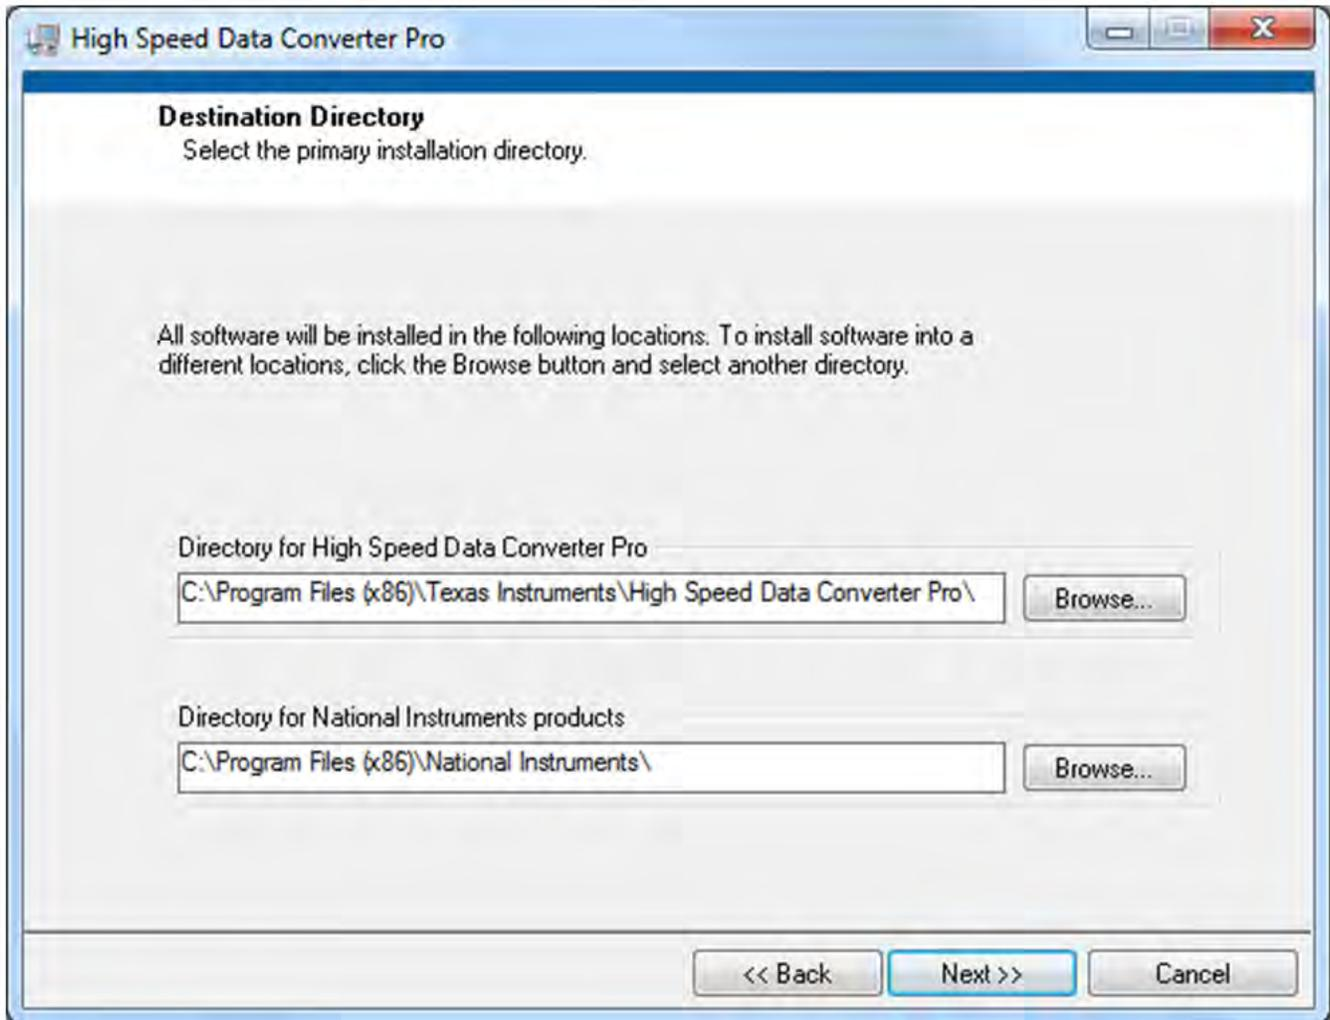

Figure 31. HSDCPro Install (Install Directory)
- Leave the destination directories as the default location, for the TSW1400GUI installation and press the NEXT button as shown in Figure 31.